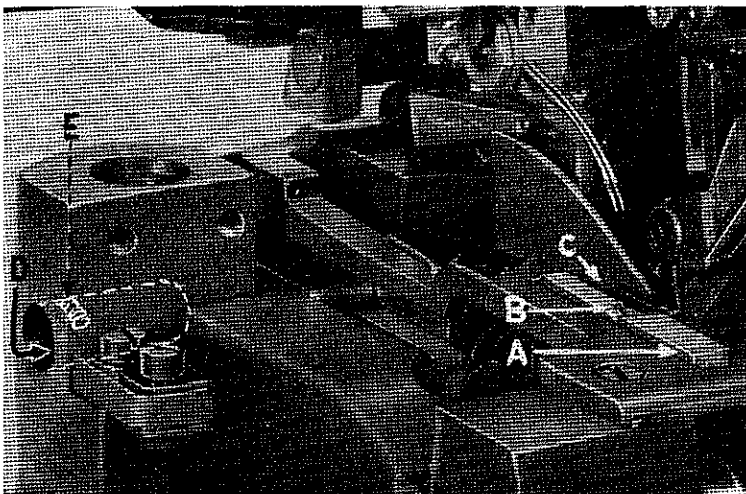

Fig. 10
Assemble and set the differential feed dog (A, Fig. 10) and main feed dog (B) so that top surfaces of the feeding surfaces all lay in the same plane. This can be checked by sighting across feeding surface with a straight edge. Feed surfaces should now be leveled with the throat plate surface by rotating feed tilting adjusting pin (D). This pin raises or lowers the back end of both feed bars at the same time.
NOTE: On Styles 39500 RC-045 and RC-060, assemble and set chaining feed dog (C, Fig. 10) level with the top of throat plate when other feed dogs are at the top of their travel.